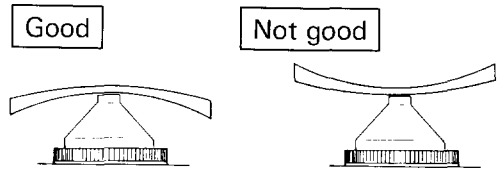

Fig. 2-11
① Hold the lens with your left hand and place its concave surface against the lens table. (Fig. 2-11)